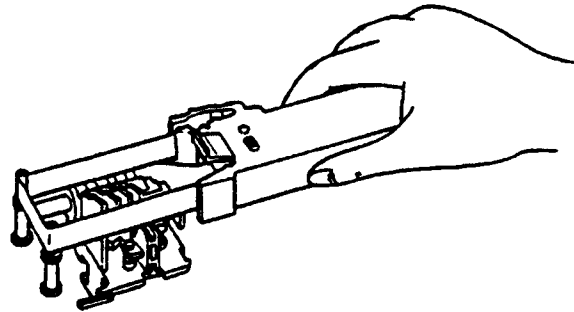

Figure 6.3
- (5) Move the ribbon cassette approx. 20 mm to the right beyond the printer carriage with the ribbon passed through the two guide pins. (Figure 6.3)